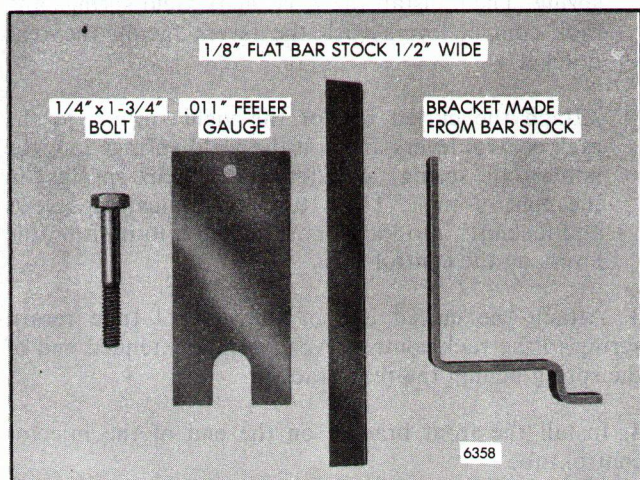
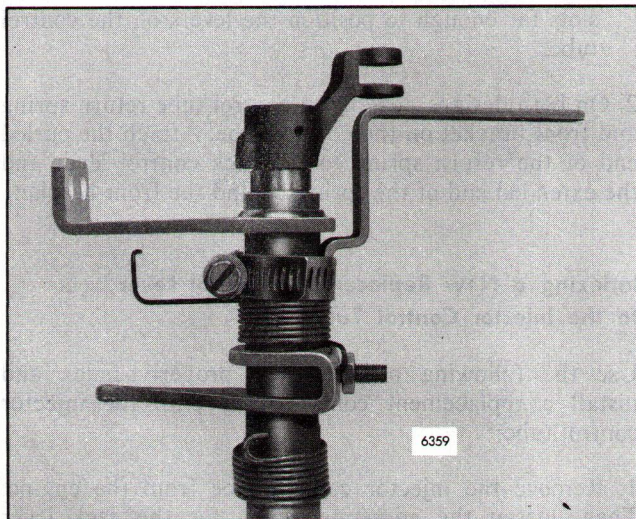

Fig. 4 - Fabricate Indexing Bracket
Fig. 5 - Secure Indexing Bracket to Control Tube
2. Fabricate an indexing bracket from a 5" long piece of 1/2" wide, 1/8" thick bar stock (Fig. 4). Secure the indexing bracket to the control tube with a hose clamp (Fig. 5).